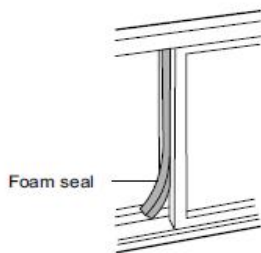

Fig. 17
5. Cut the foam seal to the length and seal the open gap between the top window sash and outer window sash. See Fig.17.